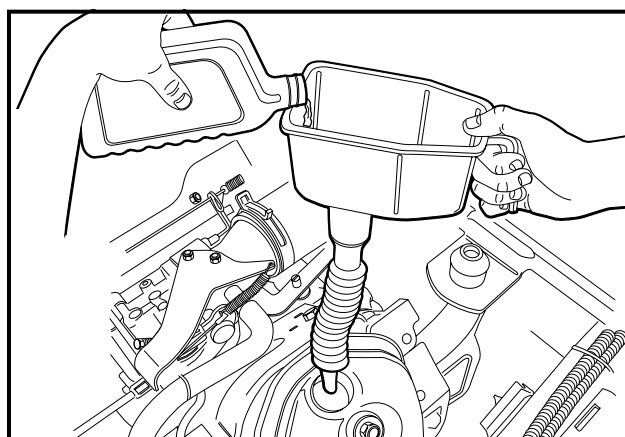
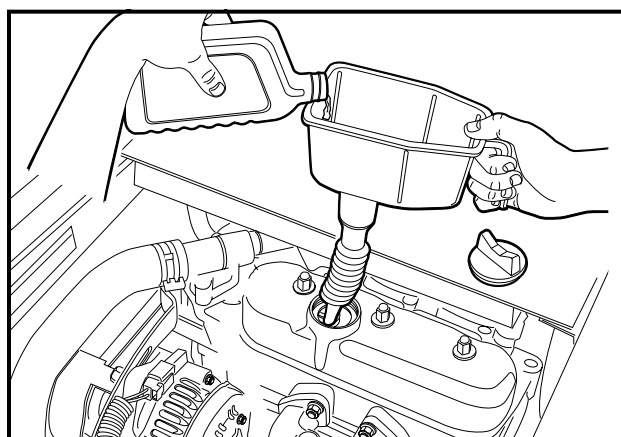

Figure 26 Add Engine Oil – Gasoline Vehicles
Figure 27 Add Engine Oil – Diesel Vehicles
13. Add engine oil; use a funnel or pour spout to direct the oil into the opening (**Figure 26** or **Figure 27**). With filter change, the engine requires 1.8 qt. (1.7 L) of oil per change for gasoline vehicles and 3 qt. (2.8 L) for diesel vehicles. Refer to oil viscosity guidelines for selection of oil grade (**Figure 28** or **Figure 29**).